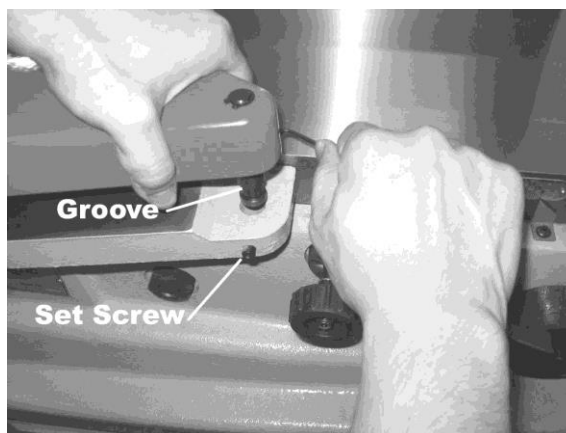

Figure 6-3
3. Lower the shaft of the guard into the hole on the jointer's rabbeting ledge. See Figure 6-3. The guard should be lowered into the hole far enough that the groove in the guard's shaft will mate with the shaft of the set screw (Figure 6-3).
5. Completely tighten the set screw (Figure 6-3), while continuing to hold the hex wrench and pin with your right hand.
6. When the guard is secured, remove the hex wrench from the pin. Slightly loosen the set screw (Figure 6-3) until the pin snaps back against the rabbeting ledge.
7. Re-tighten the set screw (Figure 6-3).